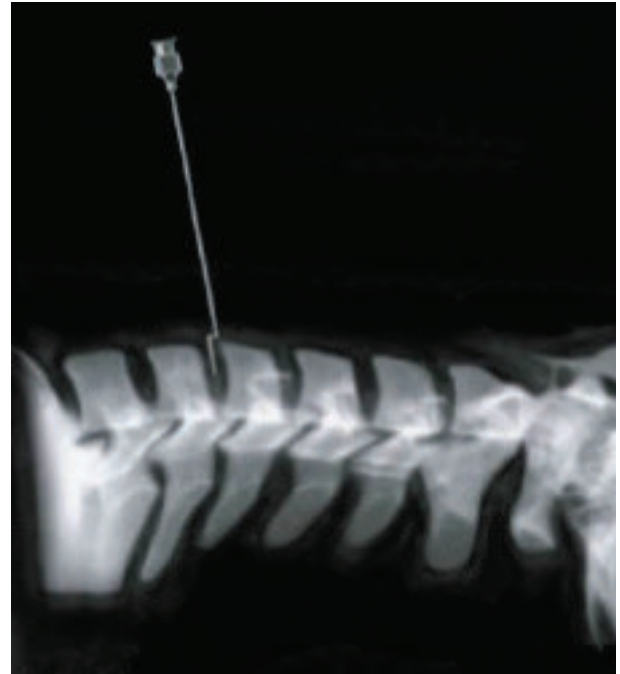

Figure 2
- Insert a marker into the disc(s) and confirm the correct operative level(s) using a lateral radiograph (Figure 2).